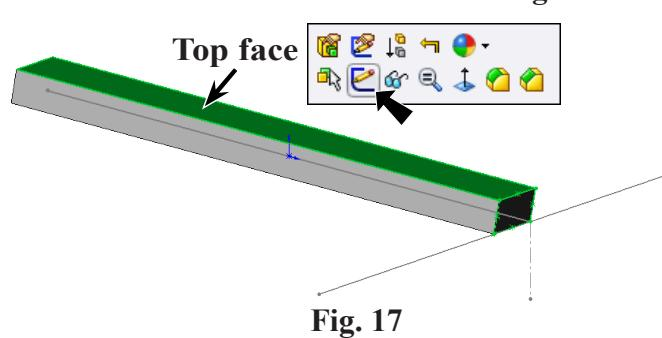

Fig. 17
Step 1. Click top face of the member and click Sketch on the Content menu, **Fig. 17**.